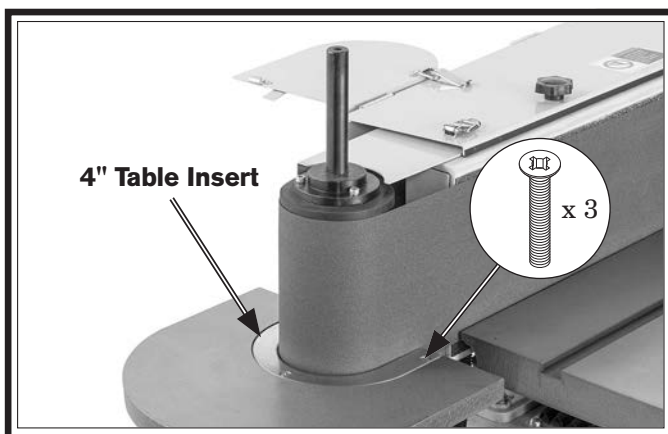

Figure 56. Location of table insert and flat head screws.
5. Remove 4" table insert on end table by removing (3) flat head screws shown in **Figure 56**.